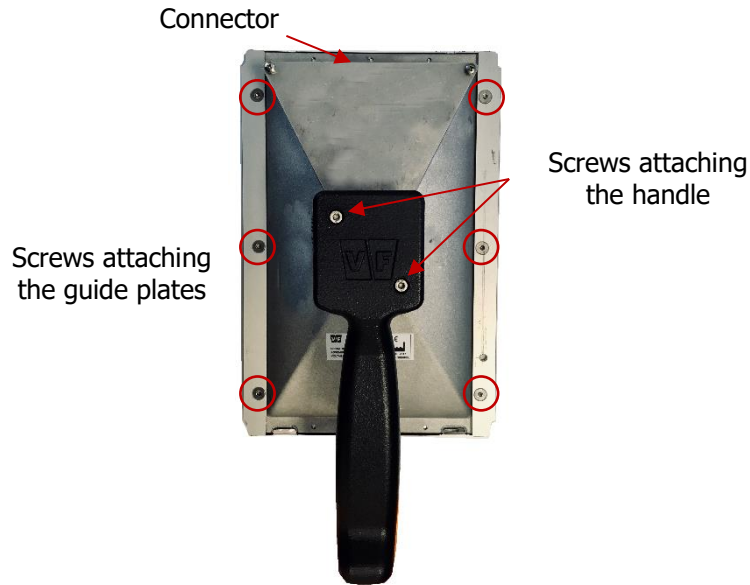

Fig. 86 Attaching the handle and guide plates of the retractable detector
- Loosen the 6 screws attaching the two guide plates using a socket wrench No. 2.5 (see Fig. 86).
- Loosen the 2 screws attaching the handle to the detector using a socket wrench No. 2.5 (see Fig. 86).
- Attach the handle to the new detector using two socket wrenches with cylindrical head M 4 x 6. Comply with the orientation of the handle with respect to the connector, see Fig. 86.